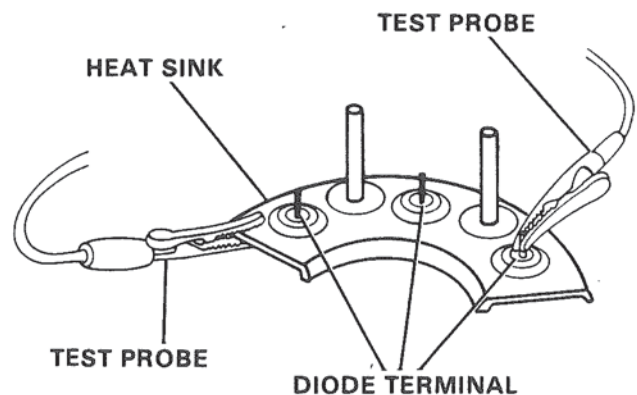

Figure 8. Rectifier Test Points.
B. If available, use a commercial rectifier tester. Test points are shown in Figure 8. Continuity or ohmmeter test points are the same. Rectifiers in a given heat sink are all either positive (+) or negative (-).